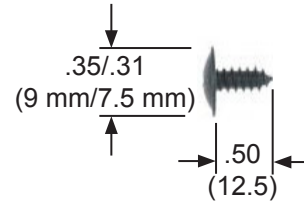

Figure 17
1. A #10 pan head wood screw should be used to properly secure the overlay panel (See Figure 17). A quantity of 16 screws are supplied with the unit in the literature pack.